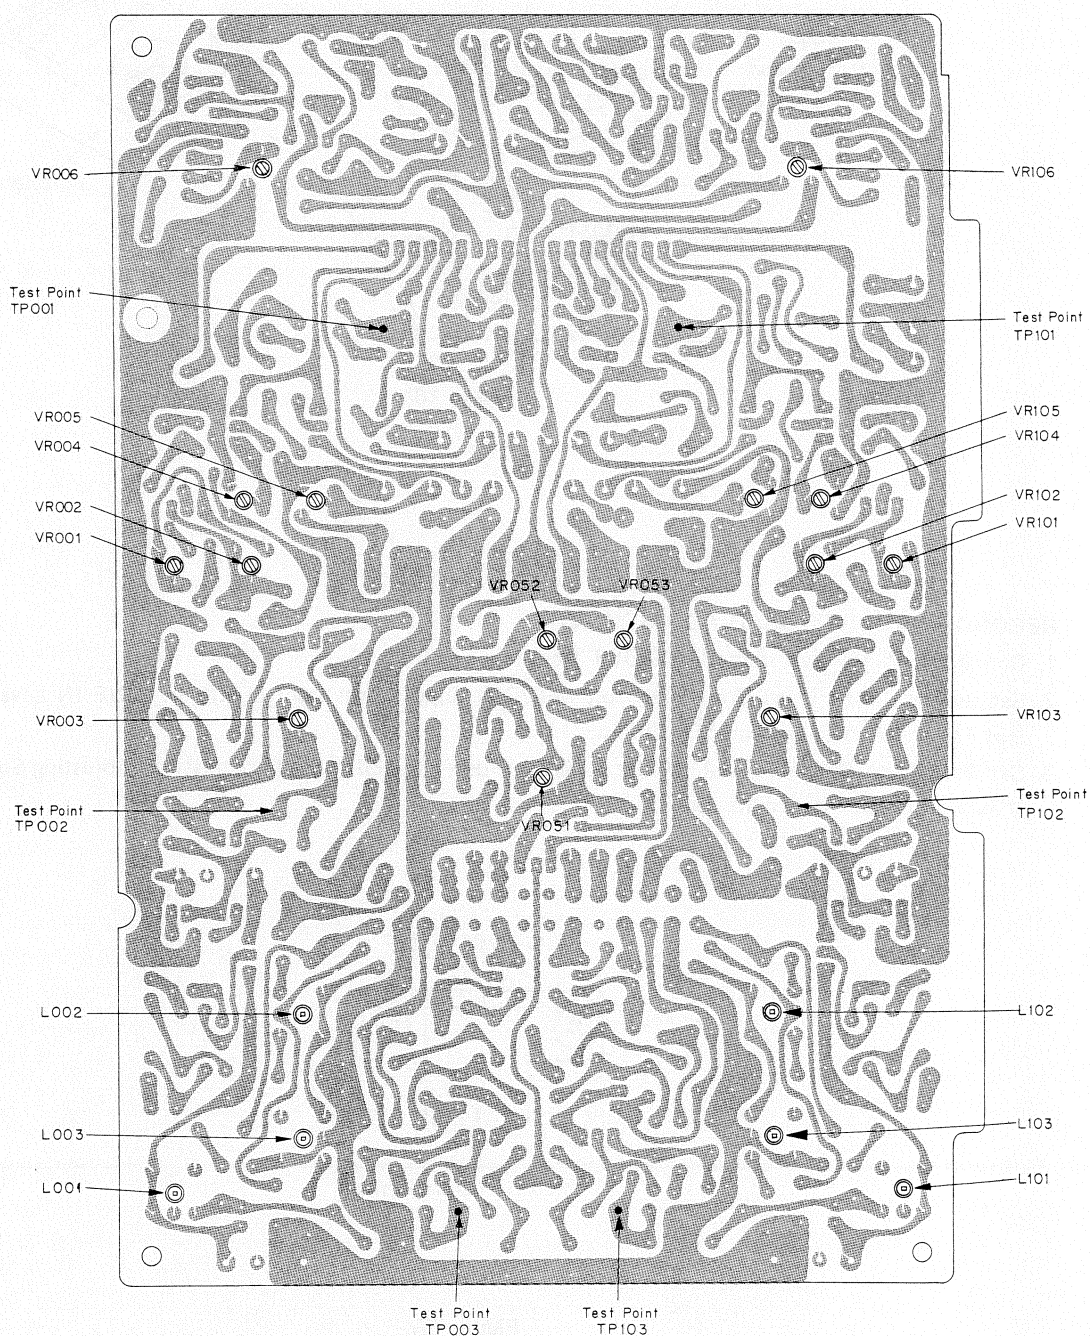

Figure 15. Location of Pre-amplifier P.C. Board
See figures 15 and 16.
4. Set Test Tape (No. MTT-150 DOLBY B-TYPE TONE, 200nWb/m), and push the Play Button, and adjust the Semi-fixed Resistors (VR004, 104) so that the VTVM indicates 580mV. See figures 15 and 18.
3. Set Test Tape (No. MTT-150 DOLBY B-TYPE TONE, 200nWb/m), push the Play Button, and adjust the Semi-fixed Resistors (VR006, 106) so that the Level Meter indicates Dolby mark ( $+3\text{dB} \pm 0.1\text{dB}$ ). See figures 15 and 19.
3. Turn the Tape Selector Switch ON (CHROME) and playback the Test Tape (No. MTT-115, 6.3kHz/333Hz), then adjust the Semi-fixed Resistors (VR001, 101) so that the output level at 6.3kHz is -4.5dB for reference output level at 333Hz. See figures 15 and 20.